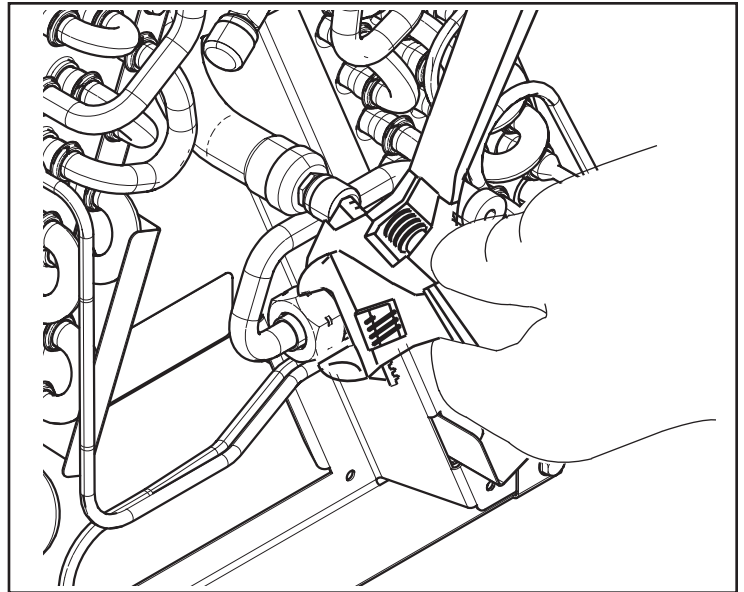

Figure 56 – Remove Stub Fitting from Replacement Coil
- Using two adjustable wrenches, remove the stub tube assembly as shown in Figure 56 and discard.